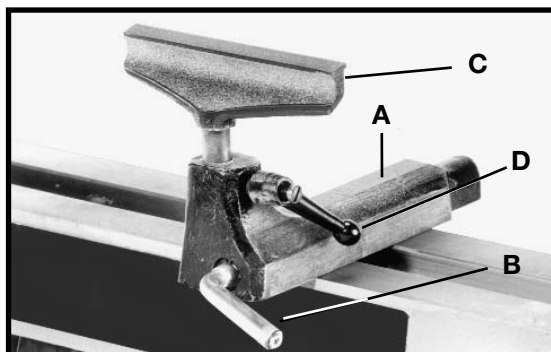

Fig. 22
1. To position the tool rest base (A) Fig. 22 along the lathe bed, loosen locking lever (B), slide the tool rest base to the desired position, and tighten lever (B).
2. To adjust the height of the tool rest (C) Fig. 22, loosen lever (D), raise or lower tool rest and tighten lever (D).